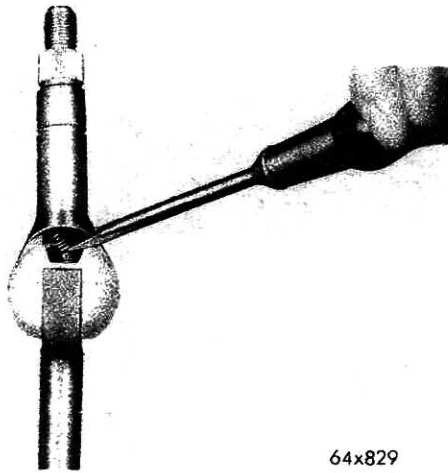
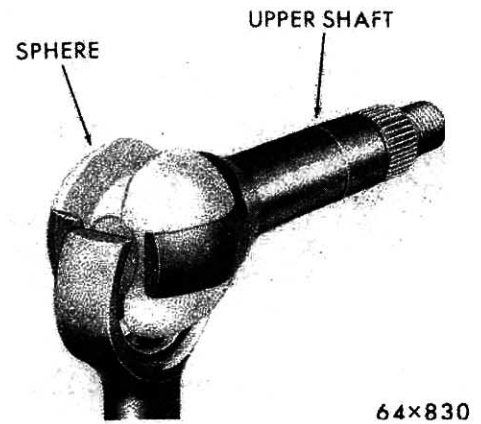

Fig. 29 - Removing or Installing the Spherical Bearing Spring
Fig. 30 - Removing the Spherical Bearing and Upper Shaft
- (1) Clamp the steering shaft in a vise equipped with brass jaws to avoid damaging the shaft and tilt the upper end of the shaft to an angle of approximately 10 degrees and using a narrow blade screwdriver through the coils of the spring to compress the spring enough to remove the spring out of its upper seat (Fig. 29).
- (2) Position the shaft at a greater angle and withdraw the spring from the spherical bearing.
- (3) Position the upper shaft so it is at a 90 degree angle from the centerline of the lower shaft (Fig. 30), and remove the upper shaft and spherical bearing from the lower shaft.
- (4) Rotate the spherical bearings so the flats align with the socket and remove the two halves of the spherical bearing from the upper shaft.
- (3) Tilt the upper shaft slightly and insert one end of the spring into the spring seat in the lower shaft, then with a screw driver blade insert between the coils of the spring, compress the spring and straighten the shaft so that the upper end of the spring can be positioned in the spring seat in the upper shaft. Refer to Fig. 29.